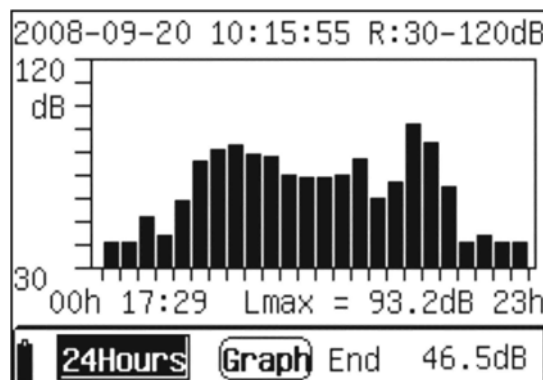

Fig. 18: Final display of 24Hours measure
8. Once the 24 intervals have elapsed, the recording stops and the result is **automatically** saved in the instrument’s memory. The “End” message appears in the lower part of the instrument (see Fig. 18). Each interval maintains the same name as the measure